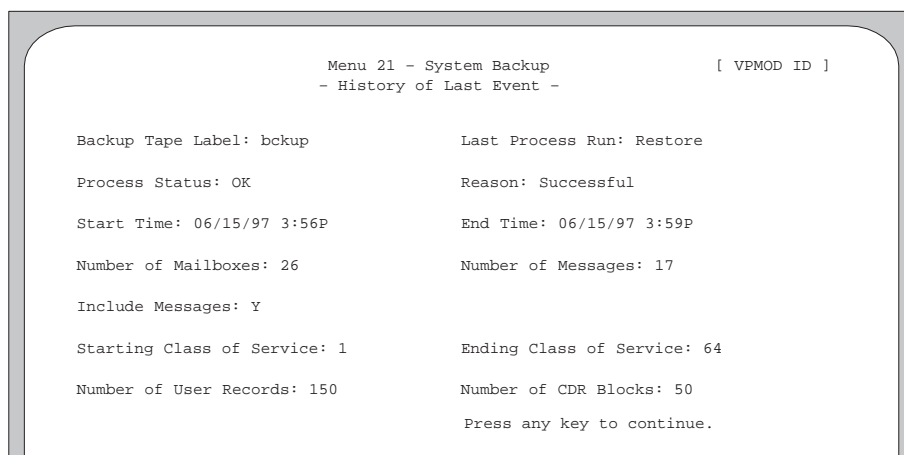

Figure A-45. Example History of Last Event Screen (Aria 2.0).
1. From online Menu 21 – System Backup, access the Review History of Last Event option to display the History of Last Event screen, as shown in Figure A-45. The fields on this screen are described following this procedure.